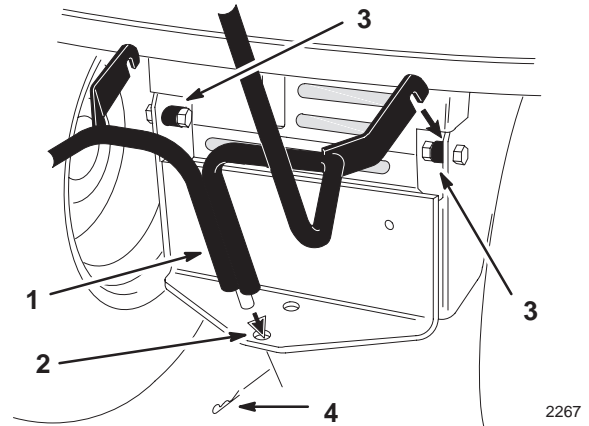

Figure 34
4. Remove the hairpin cotter and slide the bottom of the quick-attach bracket up out of the hole in the hitch and unhook it from the spacers located inside the tractor frame (Fig. 34).